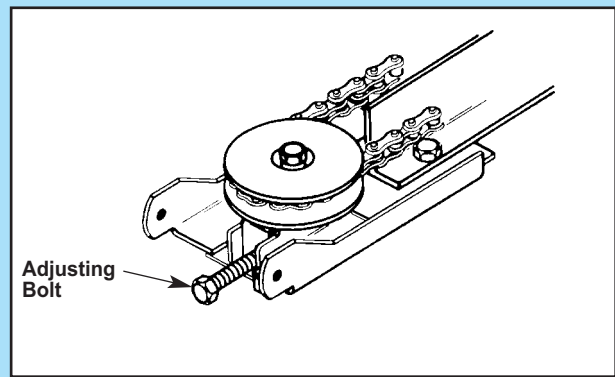

Fig. 1-4
6. Use adjusting bolt to set chain tension (Fig. 1-4)